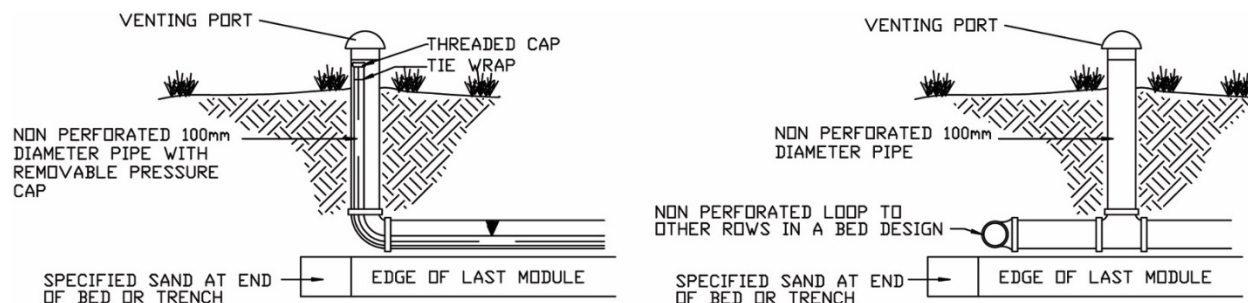

Figure 2: Vent Details for Gravity / Dosed and Pressure Distribution Systems (where specified)
4.2 PRESSURE DISTRIBUTION: Pressure distribution piping is configured as shown in Figures 2 and 11, respectively. A smaller pressure pipe is inserted inside the larger perforated pipe. Distribution is assured through small diameter pressurized orifices. Drainage of the line after each pump cycle is assured through drainage orifices. One distribution orifice is drilled at the 12 o'clock position for each Eljen GSF A42 module. One draining orifice is drilled at the 6 o'clock position at the beginning of the first module of each row and at the end of the last module of each row. The orifice size is determined using low pressure distribution calculations, ensuring that the flow is equally divided to each orifice and the residual pressure results in a minimum 900mm squirt height.
When venting is required, one (1) vent is needed per bed. When a trench is used, one (1) vent is needed per trench. The vents provide adequate differential pressure to ensure delivery of air into the GSF system, as shown in Figure 2 below.
The vents, when needed, are typically a 100 mm (4 in.) diameter pipe extended to a convenient and esthetical location (behind shrubs for example), as shown in Figure 2 below. Corrugated pipe can be used with the placement and grade such that any condensation that may accumulate in a pipe does not fill and thus close off this line. If the vent is extended, the pipe must not drain effluent and must have an invert higher than the system. Elevated (mounded) systems requiring venting must elevate the vent line above the top of the GSF modules with fittings to prevent effluent from migrating down the vent. The vent can then be pitched away from the system to a discrete area. A drain hole must be installed at the lowest point to drain any condensation.